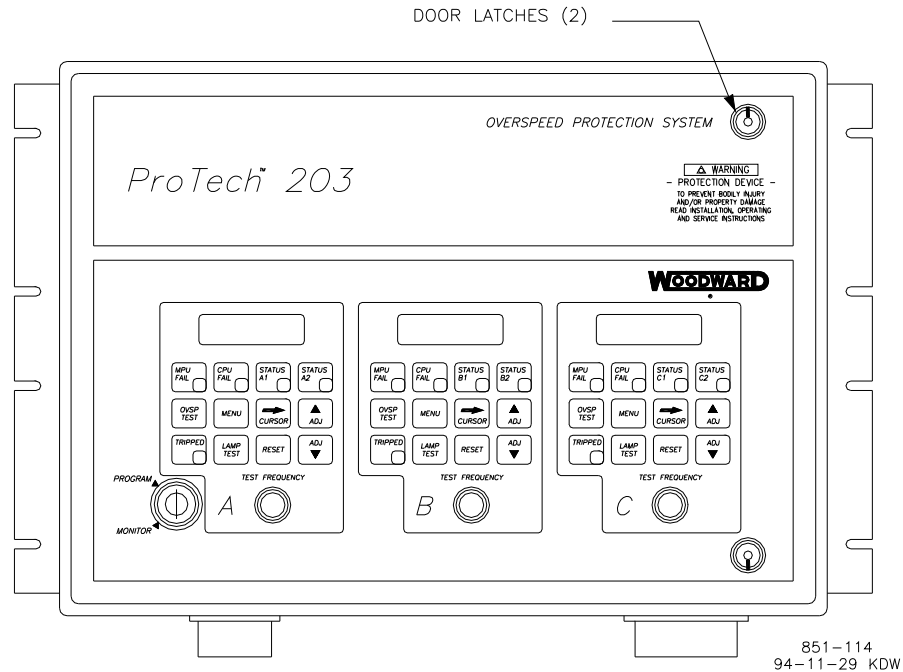

Figure 5-1. ProTech System Front Door
2. To open the front door, turn the two door latches (counterclockwise) see (Figure 5-1).
2. To open the front door, turn the two door latches (counterclockwise) (Figure 5-1).
10. Attach both ribbon cables to the I/O board (Figure 5-1).